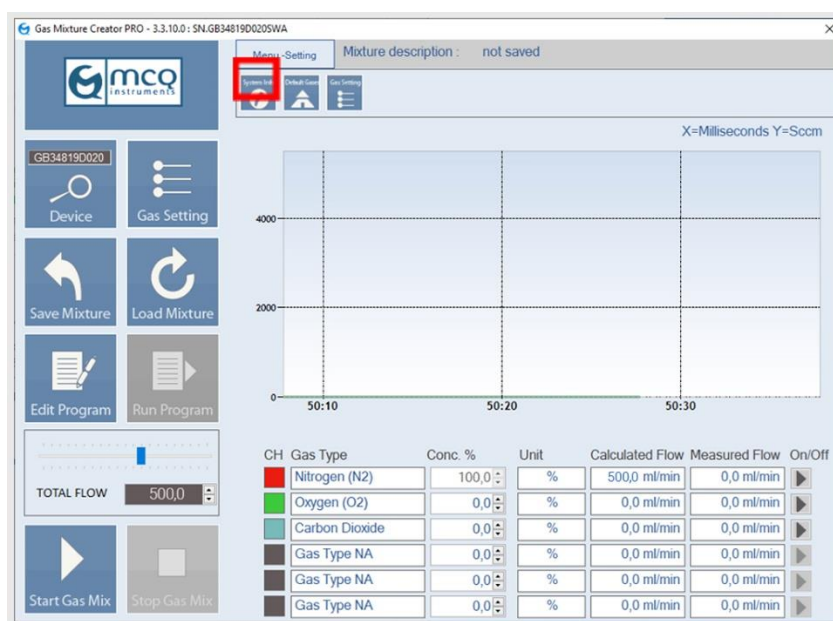
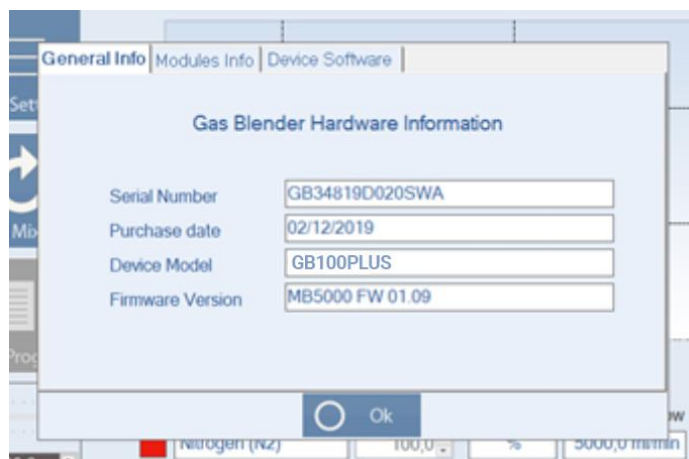
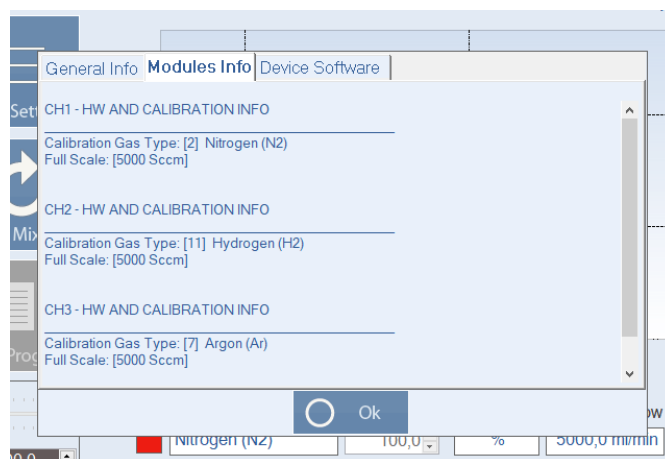
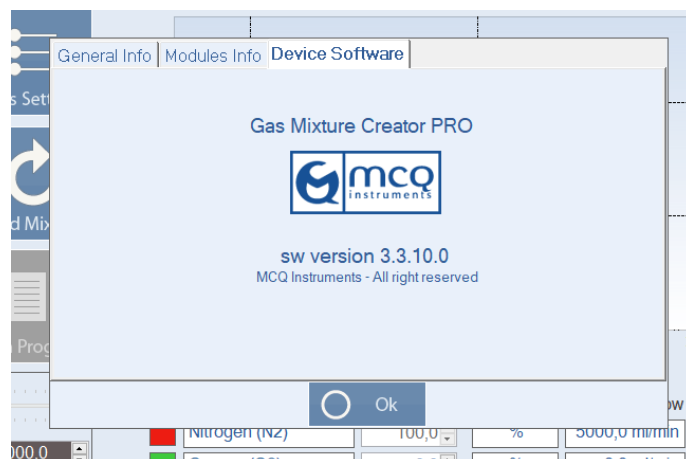

Figure 5-12
Figure 5-13
Figure 5-14
Figure 5-15
5. Click on the **System Info** button (Figure 5-12) into **Menu-Settings** window to access the Gas Mixture Creator Info panel. The panel is divided in three sections: **General Info** (Figure 5-13), where basic hardware information about the instrument is provided; **Modules Info** (Figure 5-14), where basic hardware information and configuration settings of each module is provided; **Device Software** (Figure 5-15), where basic information about the software itself is provided.